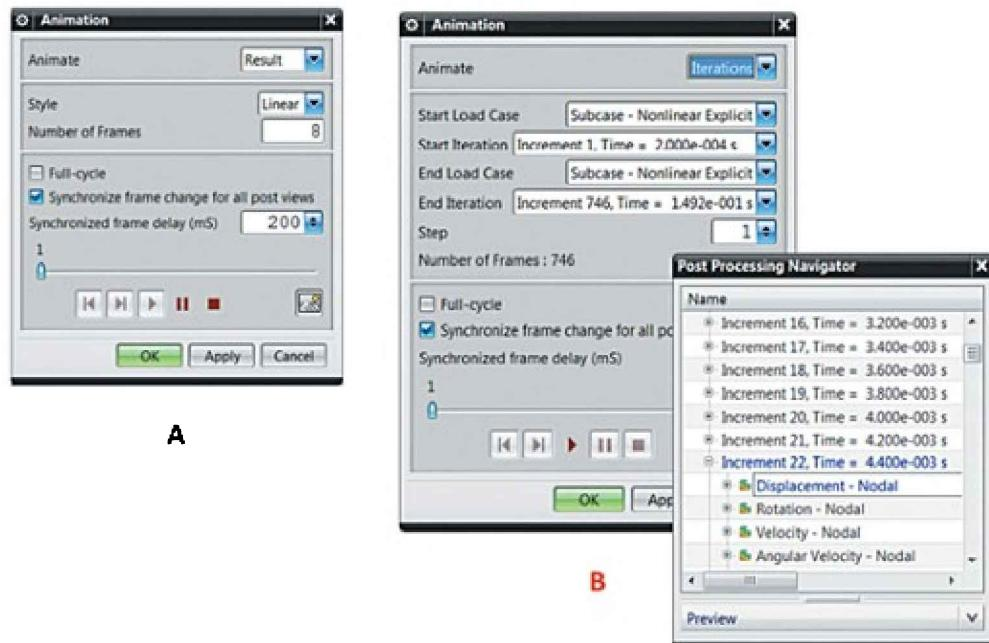

Figure 5.41. Creating animated states
command creates an animation for one or more increments (Figure 5.41). There are two types of animated states that you can manage directly in the dialog box using the *Animate* option:
- Select *Result* to animate the result of a single increment or step as the value changes from 0 through the current value at the given step. *Style – Linear* corresponds to linear change (typically used for static problems), while *Style – Modal* corresponds to harmonic-law change and is used for natural frequency and mode calculation problems. You can type the number of frames in the *Number of Frames* box (Figure 5.41, A).
- Select *Iterations* to animate the selected result type in accordance with the values at each incremental step (Figure 5.41, B). To create the animation, specify the initial step/subcase and the initial increment, the final step/subcase, and the final increment. If there is a large number of increments, for example, in dynamic analysis, you should specify a *Step* value to skip intermediate increments.